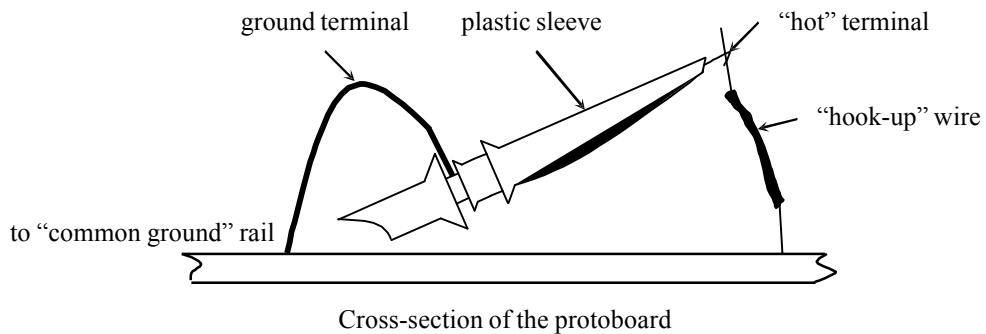

Fig. A-22
- ❖ As for the “hot” terminal of the probe always use a “hook-up” wire to measure a voltage (refer to a drawing in Fig. A-22). Do not attach the “hot” terminal directly to a circuit component and never take a plastic sleeve off the probe.
- Use a hook-up wire in connection with the oscilloscope probe as explained under “Oscilloscope Probes” and Figure A-22 on the previous page.